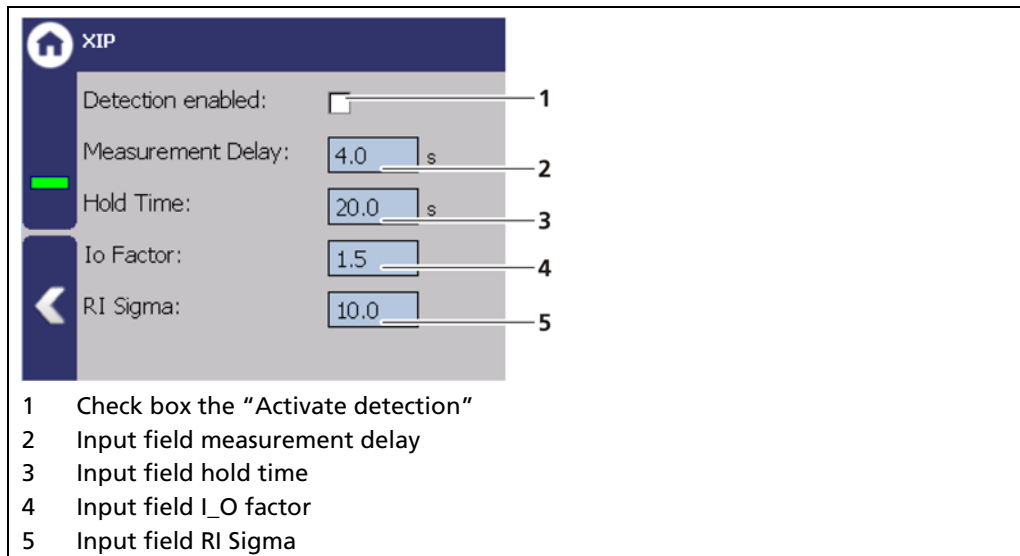

Fig. 88 XIP
Radiation interference is X-ray or gamma radiation from any source other than the one intended for the measurement. Radiation interference can cause process value falsification. To protect the measurement from radiation interference the function XIP can be activated. Rapid and strong count rate increases are considered in this cause. If the detection is activated (Fig. 88, item 1), the last valid process value is frozen during the event of radiation interference. Once no more radiation interference is detected, the value is released again.